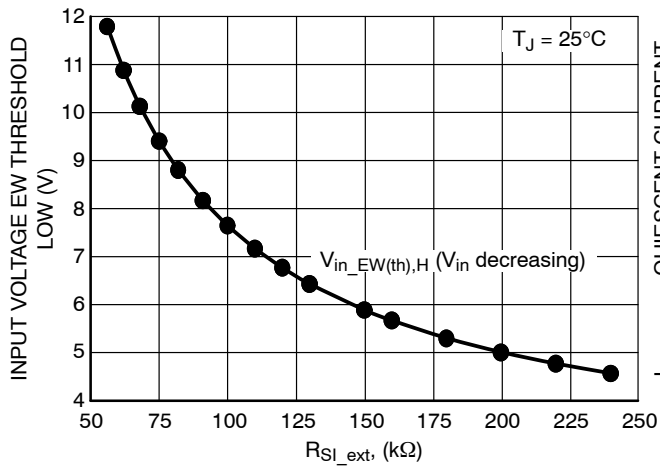
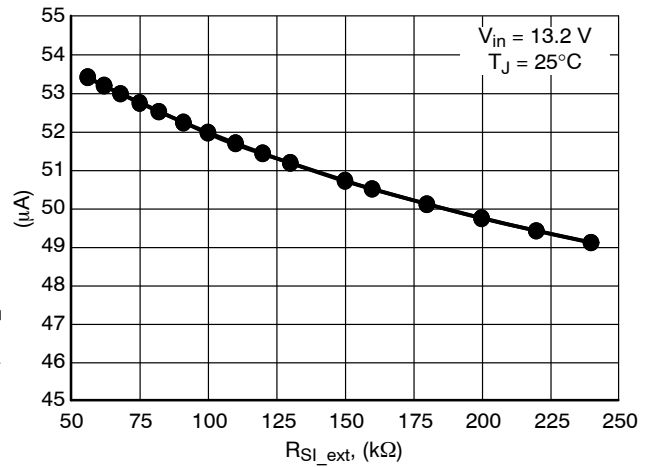

Figure 22. Input Voltage EW Threshold Low vs. R_{Sl_ext} (Calculated Using E24 Series)
Figure 23. Quiescent Current vs. R_{Sl_ext} (Including I_{RSl_ext} , Calculated Using E24 Series)
13. I_q for Preset EW Threshold Options is measured when R_{SL_ext} is not used. For typical values of I_q vs R_{SL_ext} see Figure 23.
13. I_q for Preset EW Threshold Options is measured when R_{SI_ext} is not used. For typical values of I_q vs R_{SI_ext} see Figure 23.
Practically only preset options above 4.5 V can be used without R_{SI_ext} due to minimum operating input voltage value limitation. For other preset options the trip point has to be adjusted externally using R_{SI_ext} resistor connected between input monitor SI and GND (see Figure 1). For other preset options R_{SI_ext} has to be used to achieve $V_{in_EW(th)} > 5.5$ V (minimum operating input voltage value). The value for R_{SI_ext} is recommended to be selected in range from 50 kΩ to 250 kΩ and the trip point can be shifted according to Figure 22. The higher is R_{SI_ext} the lower is overall Quiescent Current of the application (see Figure 23). General formulas for calculation of $V_{in_EW(th)Low}$ or R_{SI_ext} for selected preset Early Warning options are described by Equations 1 and 2.